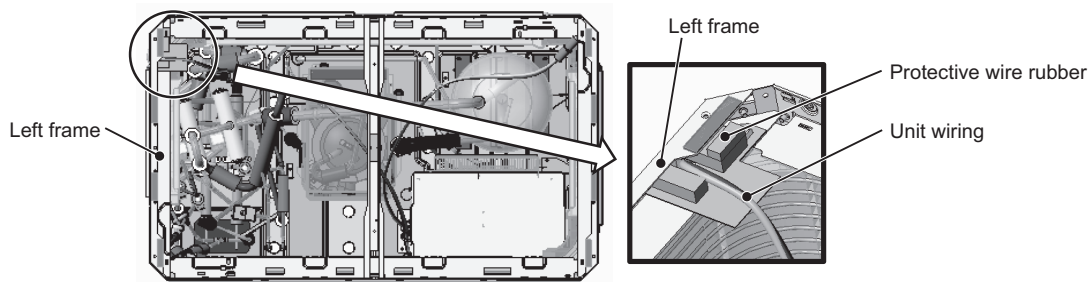

Figure 11
- (14) Remove the unit wiring from the left frame (See Figure 11).